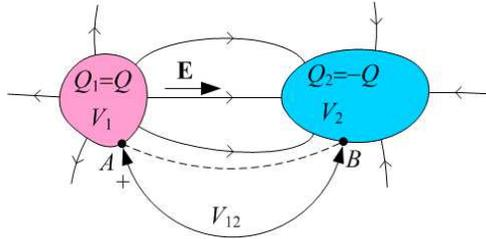

Figure 3.2 Capacitor. For simplicity, dielectric bodies are not shown.
A capacitor is formed by two conducting bodies (electrodes) carrying exactly opposite charges,  $Q$  and  $-Q$  (Figure 3.2).
The unit for the capacitance of a capacitor is farad (F). In circuit theory, the structure shown in Figure 3.2 is represented by a single capacitor, connected between the two bodies, whose capacitance is given by (3.5).